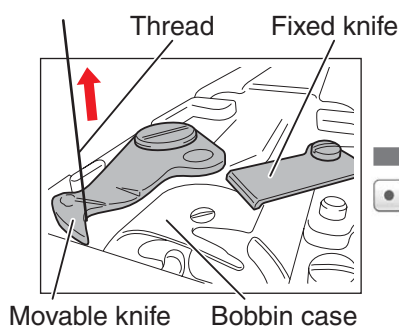
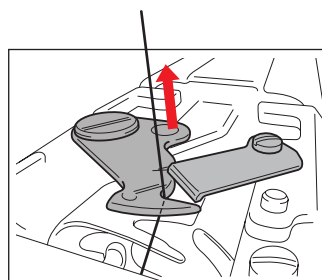
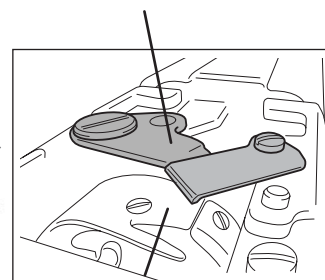

Fig.1
Fig.2
Fig.3
- Save the A/D value of the hoop sensor to the flash memory the sewing machine at the attachment position ② of the LL frame.
5. Press the [S Save] after attaching the left arm of the tubular round arm set A to the position ④ (refer to Fig.2) and tightening the 2 thumb screws certainty.
- Save the A/D value of the hoop sensor to the flash memory the sewing machine at the attachment position ④ of the S frame.
7. Press the [BORDER Save] after attaching the left arm of the tubular round arm set B to the position ① (refer to Fig.3) and tightening the 2 thumb screws certainly.
3. Pull the cutter link assy to the direction of the arrow, measure the engagement load of the movable and fixed knife. (Fig.2)
4. When the engagement load is not within the specifications, insert a spacer below the collar of the movable knife. (Fig.3)
7. Tighten the 2 screws ❶ of the cutter link assy to secure the cutter link assy to the lever link assy.
4. Press [Trim move] to move the movable knife to the left (See Fig.1). Pull out the thread from the bobbin case, and catch the thread on the inner hook of the movable knife (See Fig.1). Press [Trim move] twice while pulling up the thread gently by hand to cross the movable knife and fixed knife, and check that the thread is cut correctly (See Fig.2 and Fig.3).